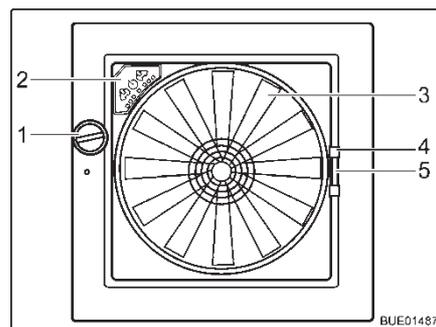

Fig. 114 Omni-Vent skylight
- Turn the knob (Fig. 114,1) until the desired opening angle is reached.
- Turn the knob (Fig. 114,1) until the skylight is fully closed.
- Using the handle (Fig. 114,4) pull the insect screen across to the other side of the frame.
- Press together the handle (Fig. 114,5) of the shade.
- Fan** If the skylight is open, the interior can be vented and aerated with the 6-speed fan (Fig. 114,3). The fan is operated via the operating panel (Fig. 114,2).